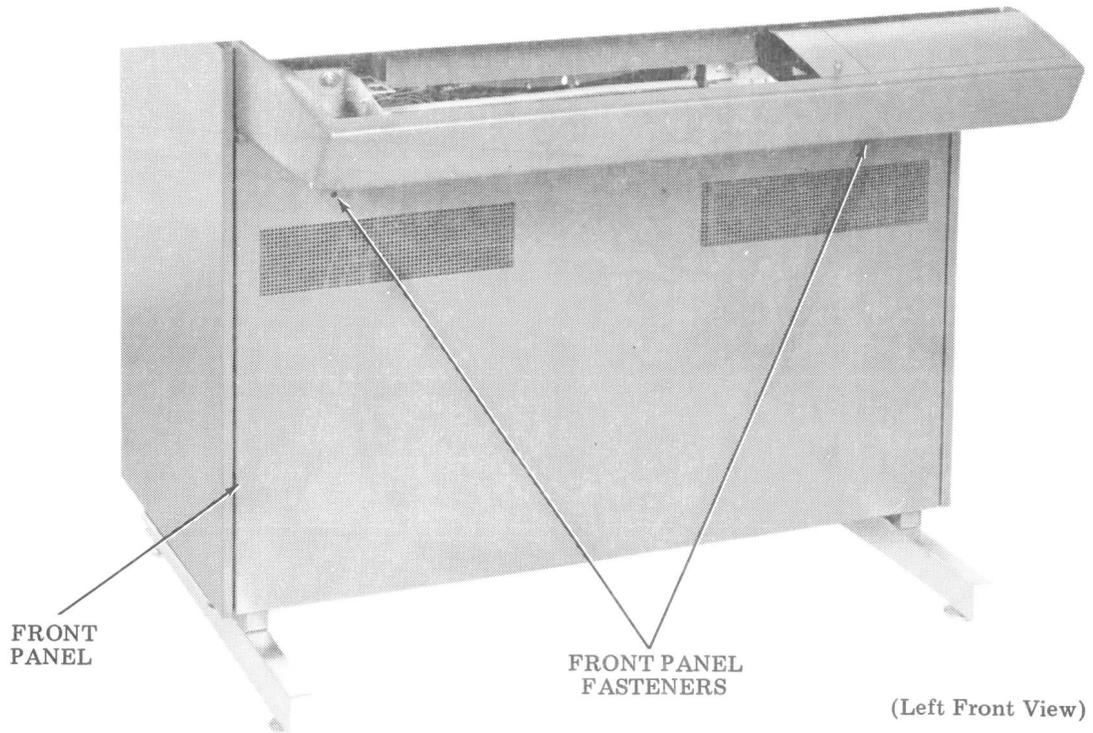

Figure 2 - CDT Cabinet
- 4.01 Remove the CDT cabinet front panel by turning the two fasteners (Figure 2) one-quarter turn to the left. The front panel can now be lifted up and removed from the cabinet.